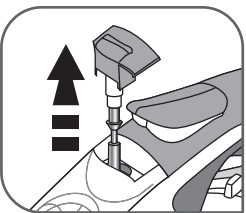

Fig. 18
- To remove the anti-scale rod, set the thermostat at MAX, press the valve extraction button and pull gently upwards – fig.18.